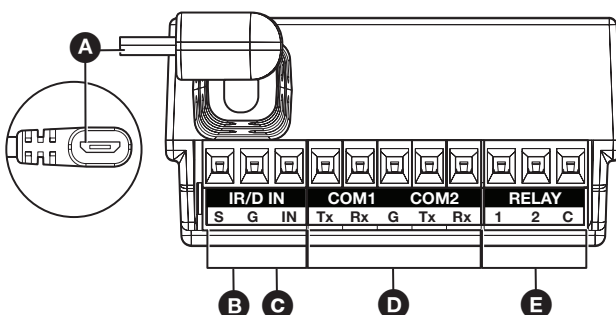

Figure 2. TLCA 1 Adapter — Top View
- A USB micro-B connector** (see figure 2 on page 1) —